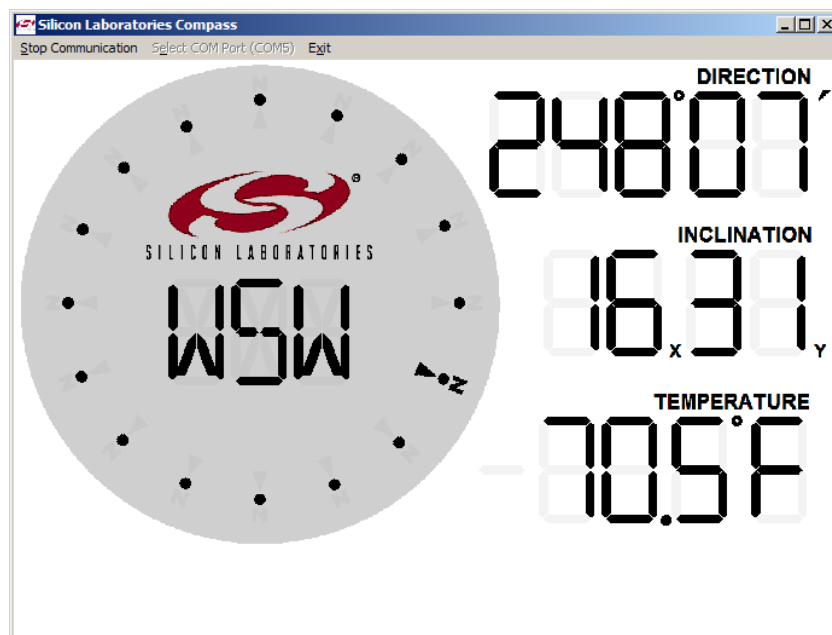

Figure 14. Compass Software Display
4. Press the "Start Communication" button in the compass application. If the connection is successful, the application will begin displaying the Direction, Inclination, and Temperature calculated by the compass board. The display is shown in Figure 14.